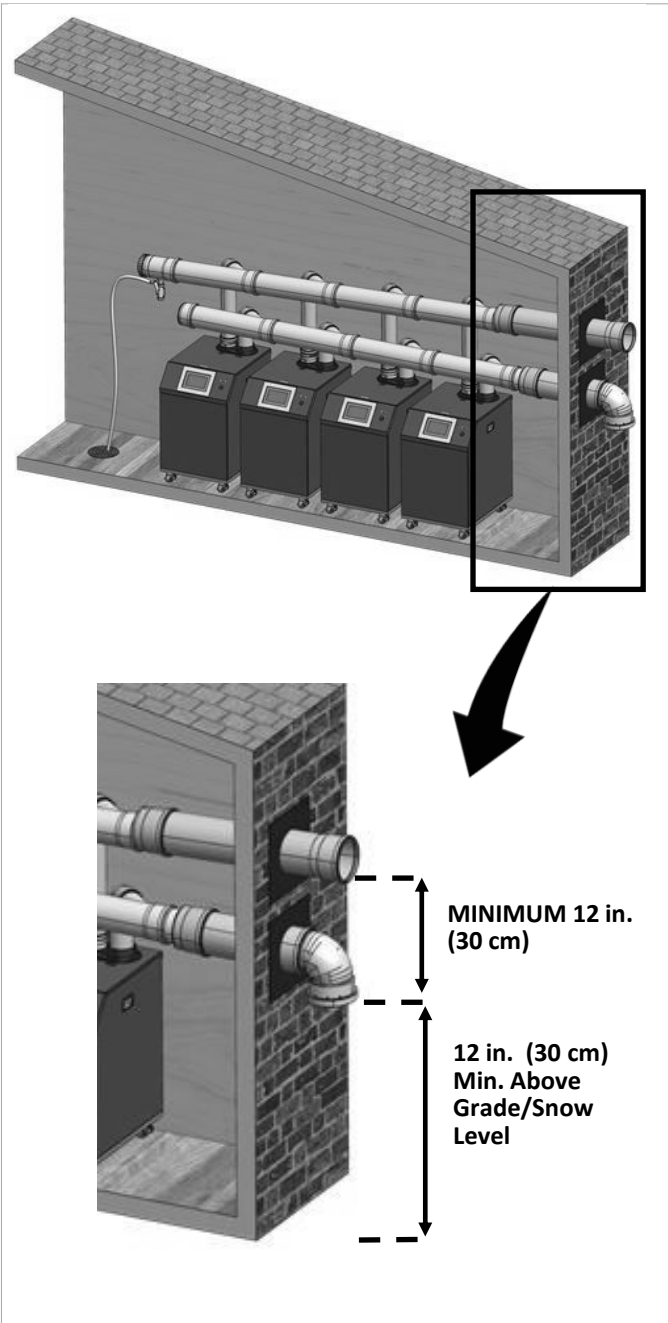

Fig 25. Exhaust and Combustion Air Termination Clearances
- 12 in. (30 cm) minimum vertically from bottom of combustion air termination to ground or anticipated snow line (Fig 25 and 26).
- 12 in. (30 cm) minimum from edge of exhaust termination to edge of combustion air termination (Fig 25 and 26).